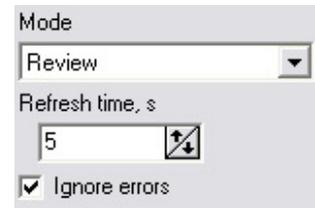

Fig. 4.17 Parameters of the review mode
- *The reviewing mode* – allows (Fig. 4.17) in an interactive mode to observe line change through the time intervals set in the field “Refresh time”. In case of successful reading of a line to the right of dialog there is a window with reflectogram. In case of error occurrence it is a window does not appear. Mark placing “Ignore errors” allows to minimize emerging messages and not to interrupt process of measurements.